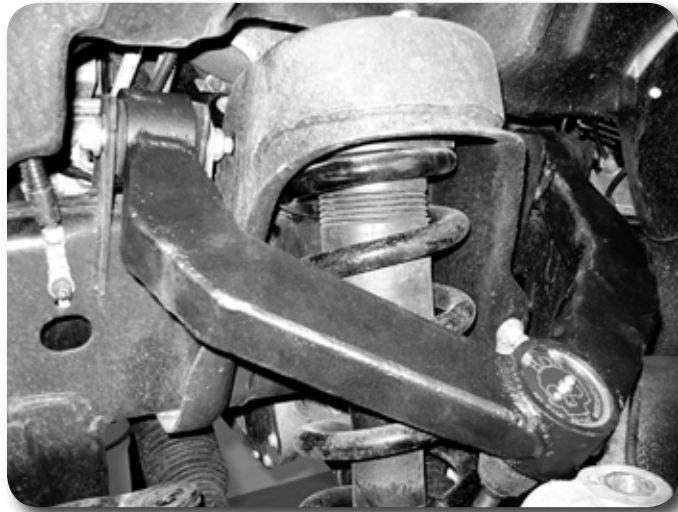

Figure 5
18. Grease the upper control arm assembly once installed. Fig. 5